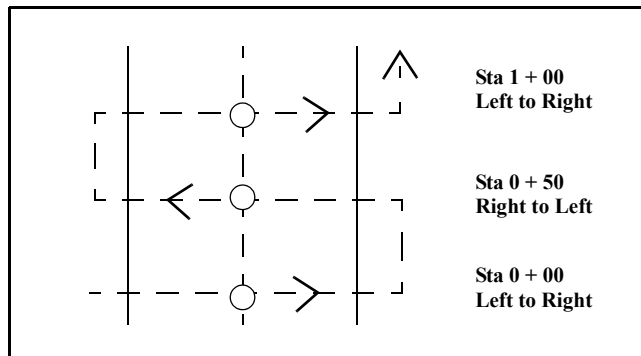

Figure 30: Survey cross-sections by walking the minimum distances
- Walk the minimum distances (see Figure 30)